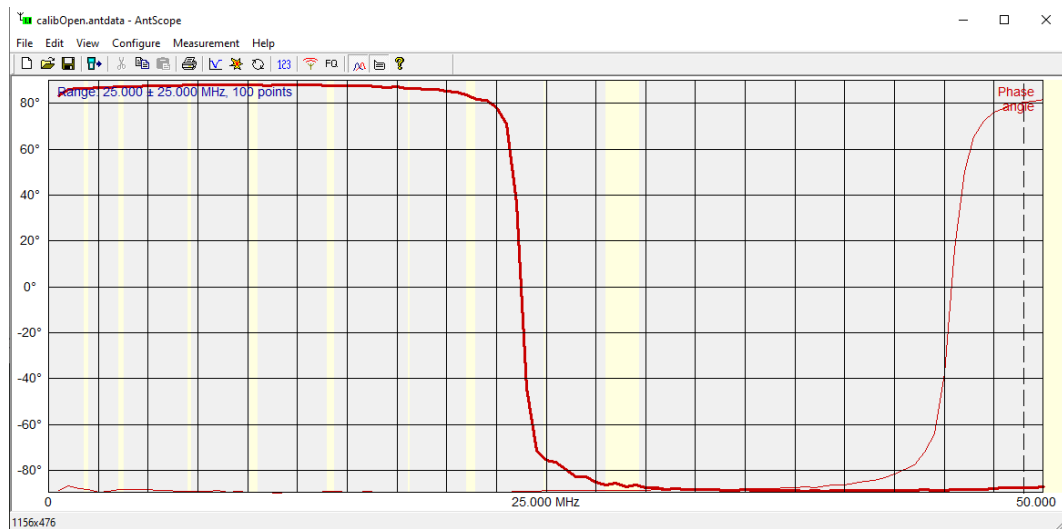

Figure 9-35: AntScope measurement - Short
2. Click the 'Start/Stop Measurement' button  to start a measurement as shown in Figure 9-35.